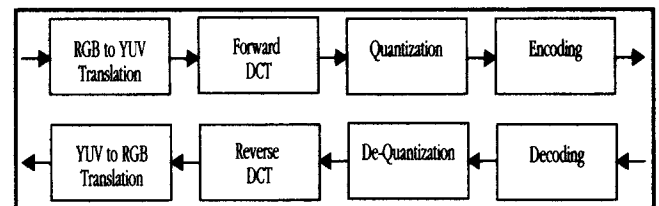

Figure 2-1. Basic Image Compression Scheme for Coder and Decoder
3. The encoding of the data to minimize the entropy of the quantized DCT coefficients. The entropy encoding is done with a Huffman variable-word-length encoder, as shown in Figure 2-1.